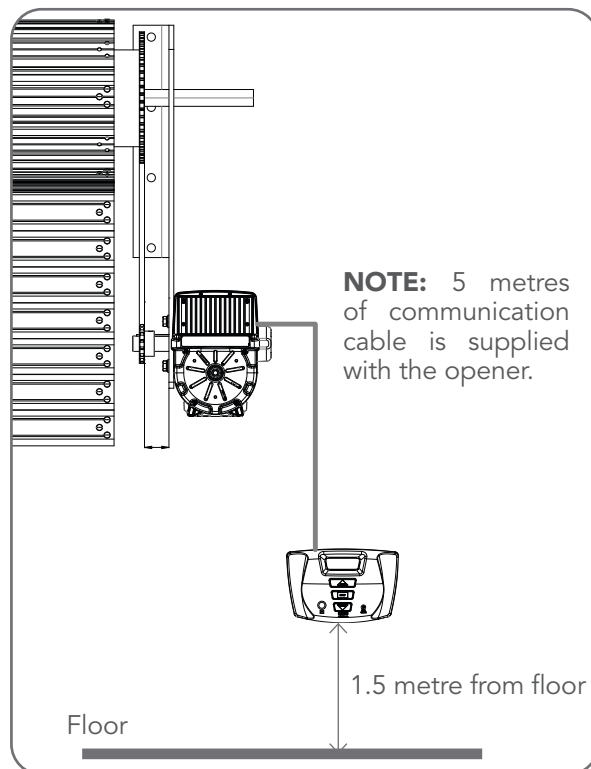

Fig 6.1
- Affix the logic or manual console at a height of 1.5 metres within sight of the shutter. Make sure that the position of the logic or manual console is out of reach of children and convenient to the customer (Fig. 6.1).
- Connect the communication cable (2) from the opener to the logic or manual console unit.